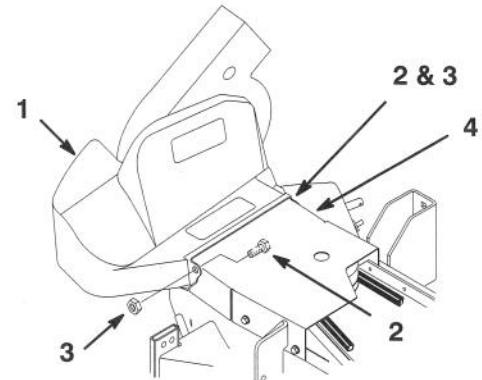

Figure 18
3. Mount the blower belt cover using (2) 1/4 x 5/8" 16 mm bolts and (2) 1/4" locknuts (Fig. 18). Tighten the locknuts slightly so light drag is felt on the belt cover when it is tilted upward. The cover must close freely when assembled.